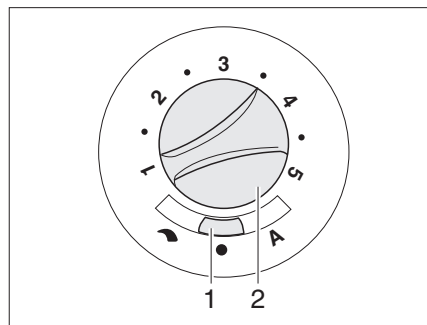

Fig. 110 Operating switch for circulation fan (12 V)
- Set sliding switch (Fig. 110,1) to "↷" (manual control) or "A" (automatic operation).
- If "↷" (manual control) is set on the sliding switch (Fig. 110,1): Turn the knob (Fig. 110,2) to the required position of the circulation fan.
- Set the sliding switch (Fig. 110,1) to "●" (off). This switch setting has no function in heating operation.